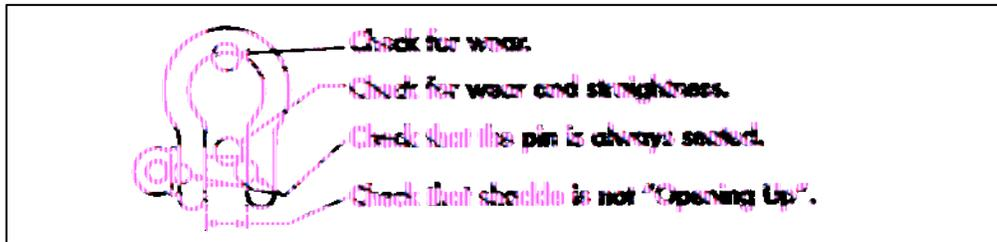

Figure 5.28-1 - Shackle Inspection Areas
- a. Shackles worn in the crown or pin (see Fig. 5.28-1) by more than 10 percent of the original diameter should be destroyed.